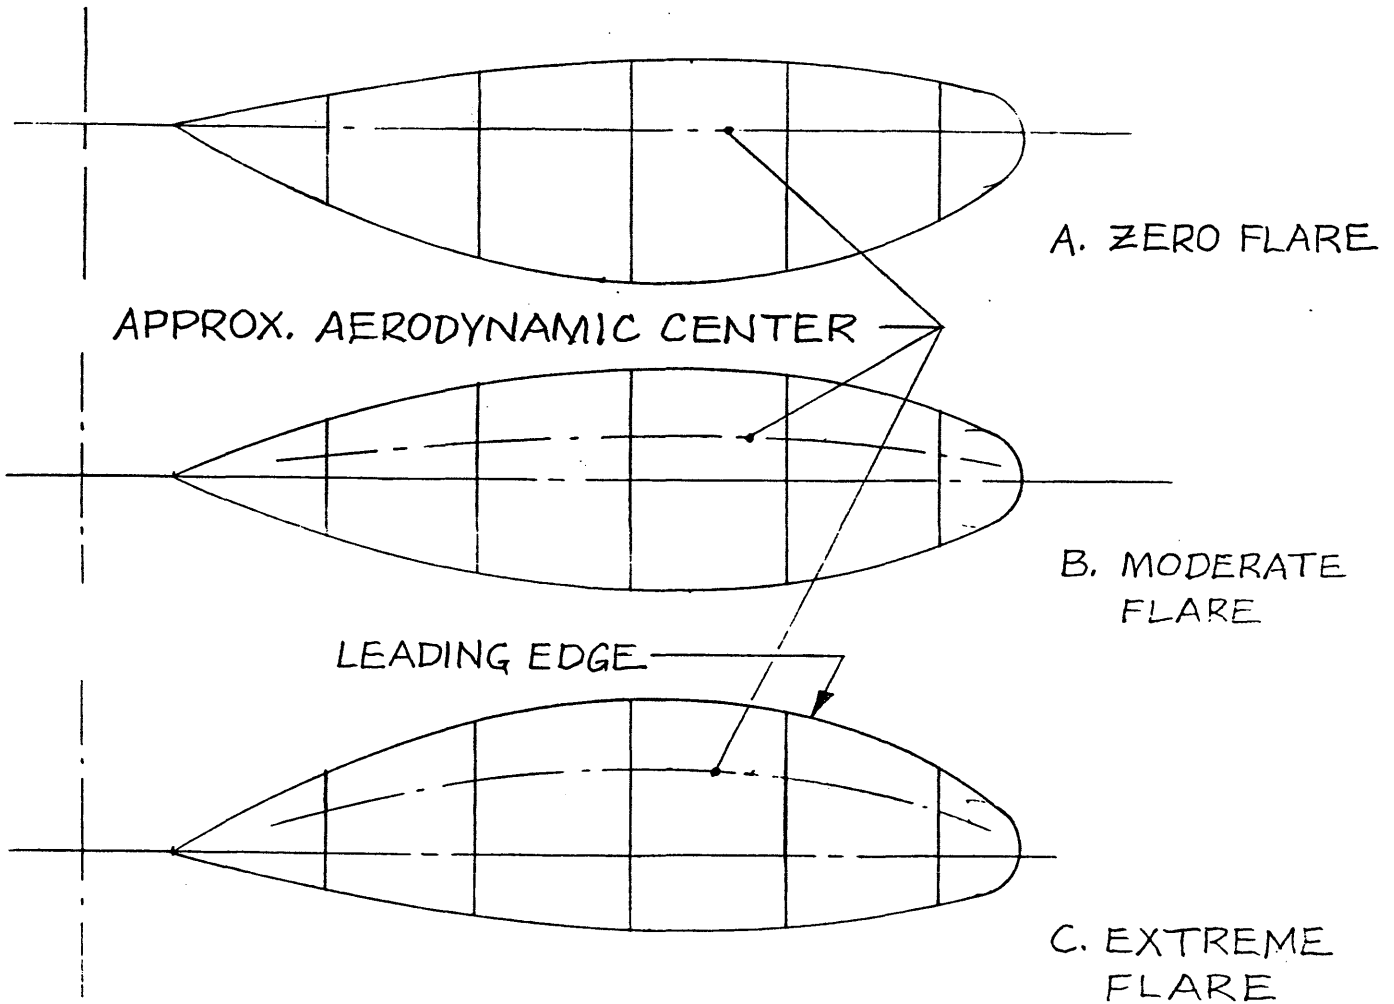

FIG. 3 5
**BLADE PLAN FORM:** Depending upon limiting factors, such as diameter and function, blade shape may vary from a graceful willow-leaf pattern to a rather unattractive, but quite utilitarian rectangular paddle. The built up blades used on ultra-light models have no restrictions against diameter, pitch, or blade width, and may be shaped for high efficiency. For some other models, such as "Limited Penny Plane" or "Bostonian" the diameter is limited and yet these propellers must absorb the power of much heavier motors. The only answer is the use of wide paddle blades and higher pitch ratios (the ratio of the pitch to the diameter). Blade area distribution fore and aft of the spar may be varied to create blades of differing flaring capability. Several blade plan form shapes are shown in figures 3-A, 3-B, and 3-C.